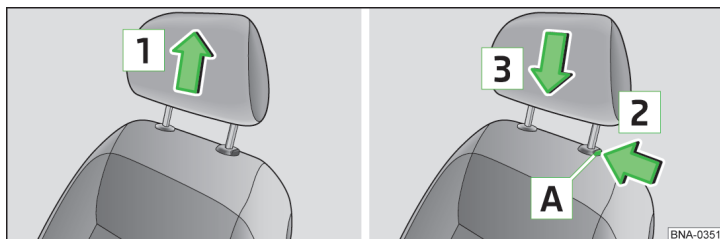

Fig. 43 Setting the height of the front headrests
- › Grasp the headrest and move **upwards** in the direction of arrow **1** » fig. 43.